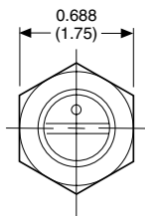

Fig. 1 (Top View)
- Remove the Disk in the middle (Fig.1) of the Instrument end of the snubber (fig.2) with a flat head screwdriver.